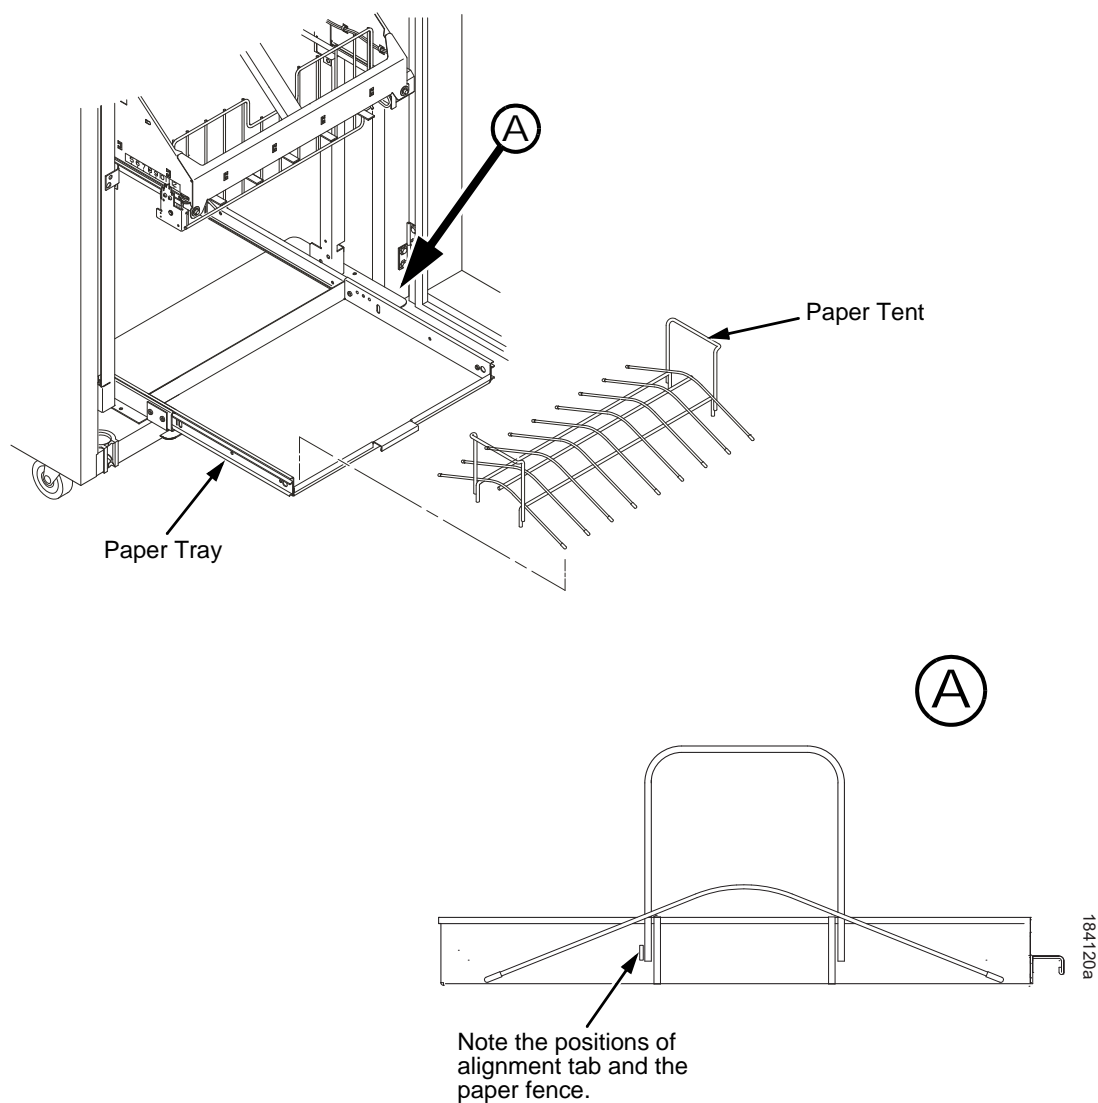

Figure 3. The Paper Tent
4. If the paper you will use is not wider than 15.5 inches (39.5 cm) pull out the paper tray and install the wireform paper tent. (Figure 3.) If the paper is wider than 15.5 inches (39.5 cm) leave the paper tent out of the printer.